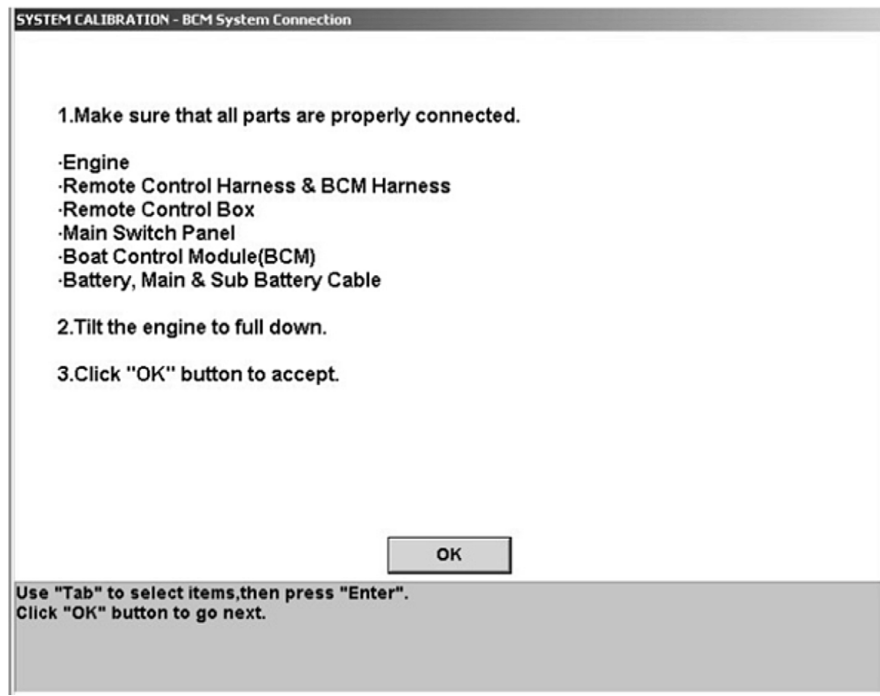

Figure 6-9. Pre-calibration checks.
1. Click **System Calibration** to start the calibration wizard. The dialog box shown in Figure 6-9 will be displayed. Review the checklist and when you've confirmed that all the items are complete, click **OK**.